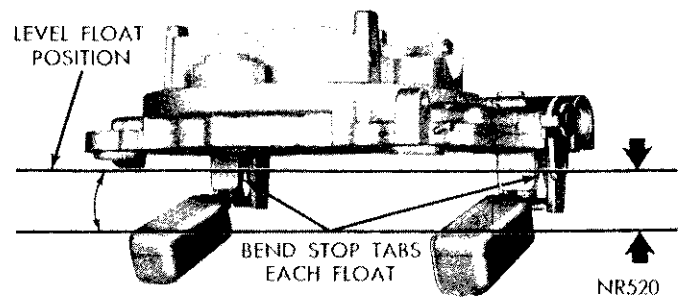

Fig. 10—Checking Float Drop
(1) With air horn inverted (upside down) place air horn in upright position and measure the distance floats move from inverted to upright position. This measurement should be 1/2 inch (Fig. 10). Air horn gasket installed. If an adjustment is necessary, bend stop tabs on float levers until correct drop setting has been obtained. Bend tab toward needle seat to lessen drop, or away from seat to increase drop.
(2) After floats have been checked and adjusted, continue to assemble carburetor as follows:
(3) Place accelerator pump plunger lower spring in pump cylinder, then lower air horn carefully down on main body. Care must be taken to center small brass main bleed tubes so that they will pass through holes in air horn without being damaged. **Be sure the fuel baffles on the air horn, slide down in front, (bowl side) of the float chamber baffles, or the air horn will not index correctly with the main body and can cause the floats to hang up. Be sure the leather on the plunger does not curl or wrinkle. Accelerator pump operation will be affected if this precaution is not observed.** Place curb idle solenoid in position on carburetor. Install attaching screws and tighten securely. (If so equipped.)
(4) Install air horn attaching screws and tighten securely.